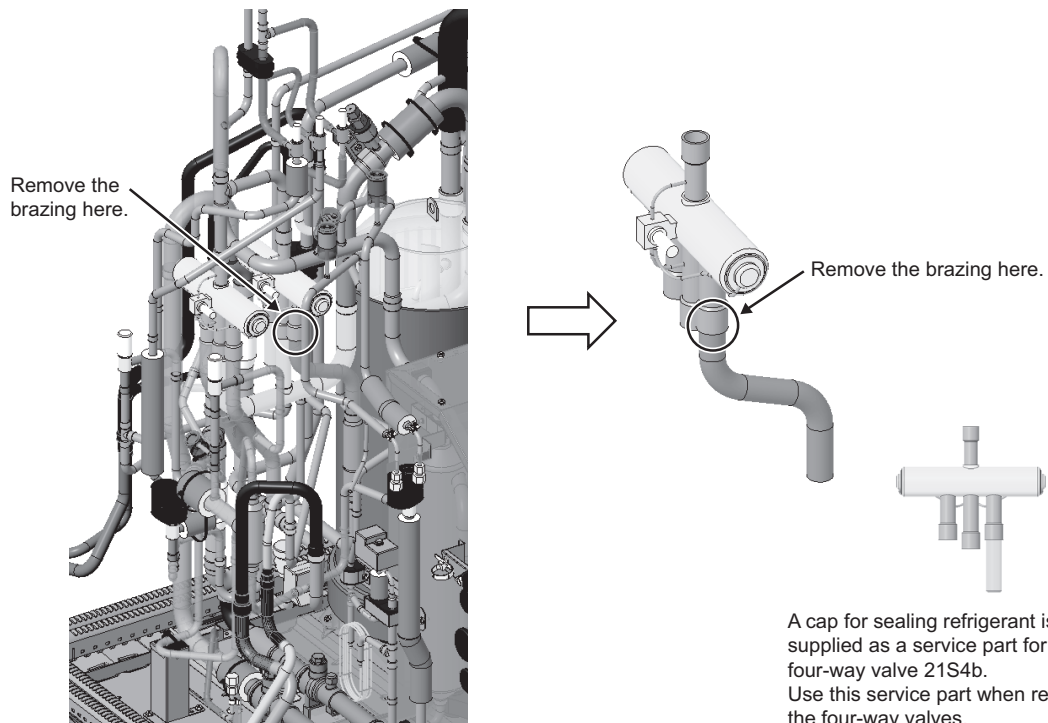

Fig. 14
- (14B) Remove the brazing from the pipe connected to the bottom front port of the four-way valve 21S4b. (One area: Fig. 14)